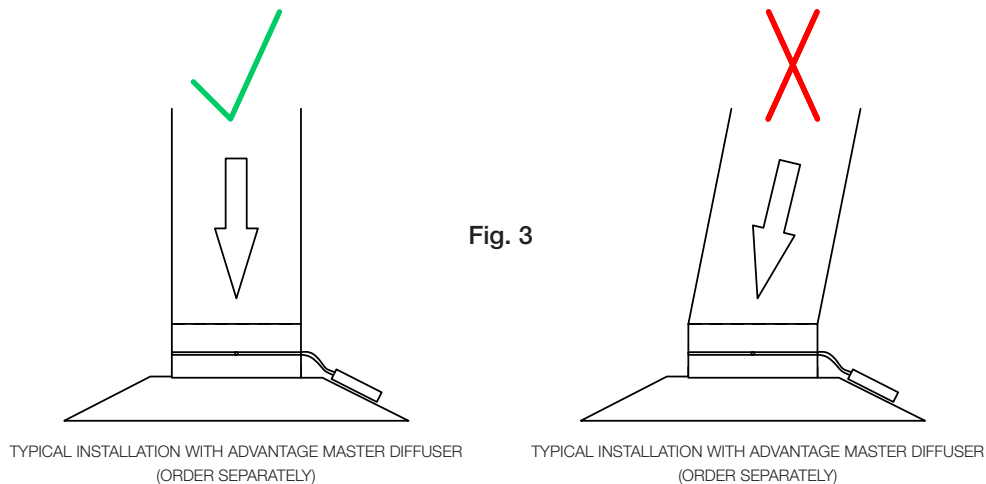

Fig. 3
- b. STRAIGHT DUCT CONNECTION:** Discard the included FlexRight duct elbow and duct zip ties (X2) and ensure you have at least three equivalent duct diameters of straight duct run before the diffuser. Ensure to avoid diagonal transitions or kinks as they may affect accuracy. If using flexible duct, ensure that the duct is fully extended and pulled tight for best results (see Fig. 3).